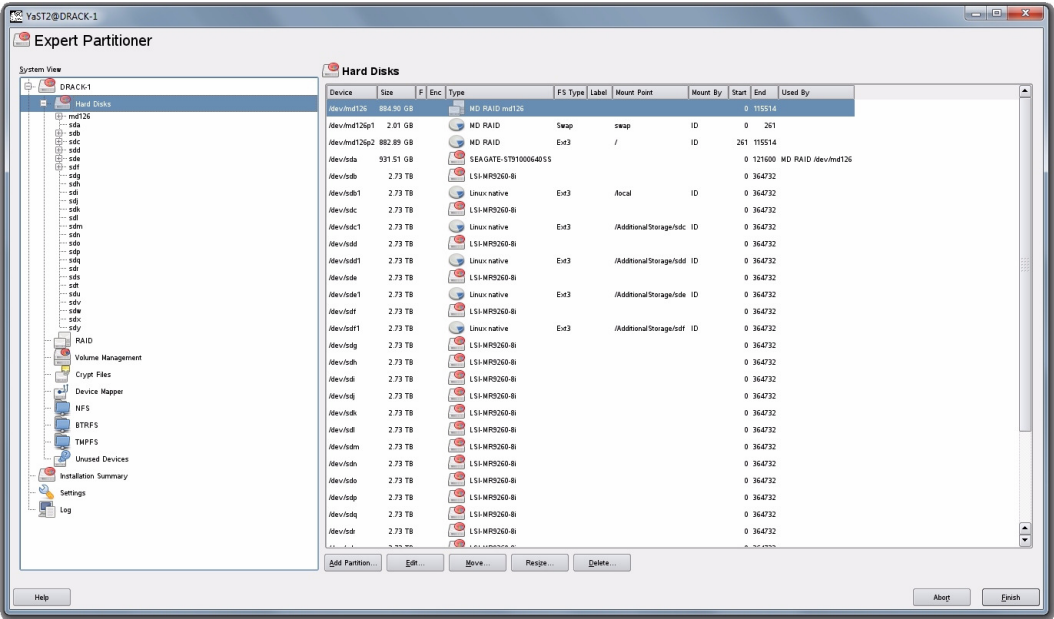

Figure 3-24 YaST2 – Drives Have Appeared
4. Verify that all of your disks have appeared under **Hard Disks** (Figure 3-24).